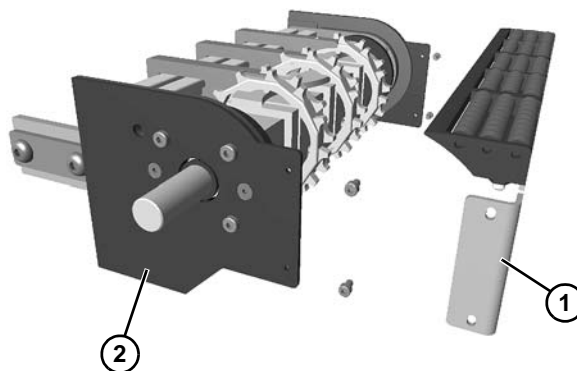

Figure 64
5. Remove the transfer roller and transfer bracket assembly (**Figure 64, item 1**) from the drive tail assembly (**Figure 64, item 2**).